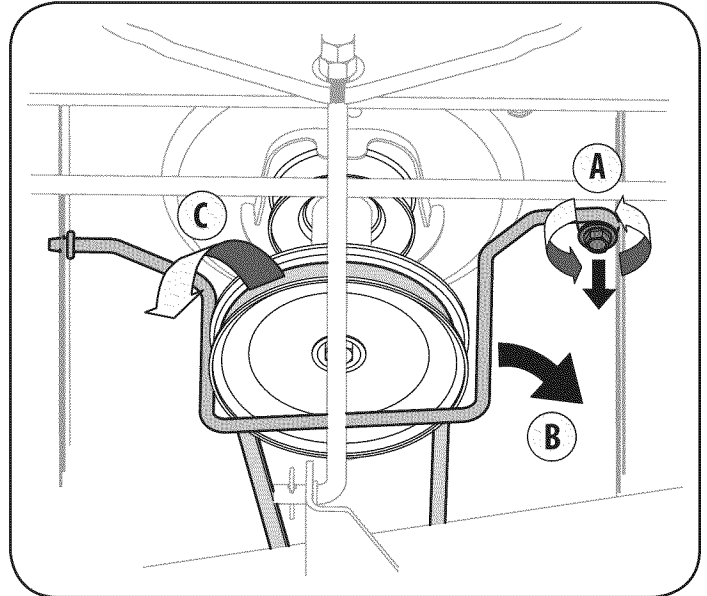

Figure 15
3. Remove the self-tapping screw (A) that secures the belt-keeper rod from around the tractor's PTO pulley, then remove the belt keeper rod (B). See Figure 15.
4. Remove the belt (C) from around the tractor's PTO pulley. See Figure 15.